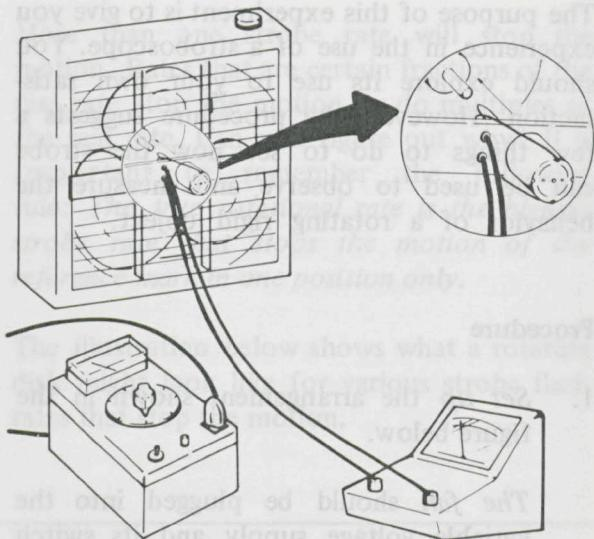

Figure 13. A DC motor acts as a tach generator.
1. Set up the arrangement shown in Figure 13.